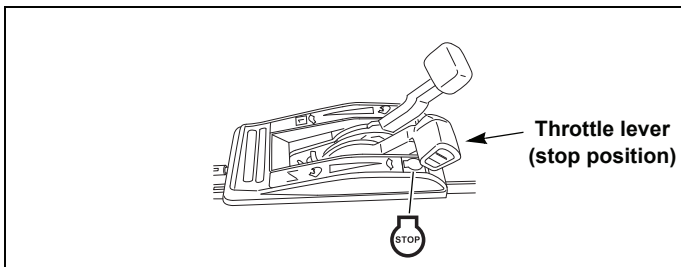
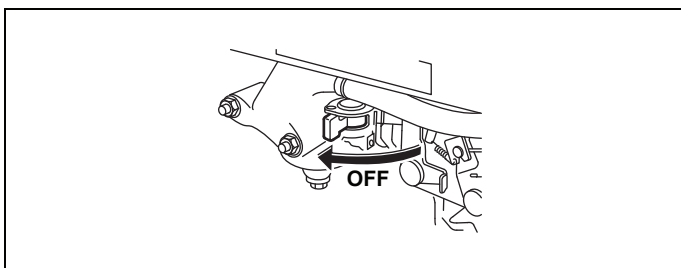

Fig. 4-23
Fig. 4-24
6. **To stop the engine:** Release the blade lever and the drive clutch lever. Set throttle to the “STOP” position. When engine has stopped, rotate the fuel cock to the “OFF” (closed) position. Fig. 4-23 and Fig. 4-24